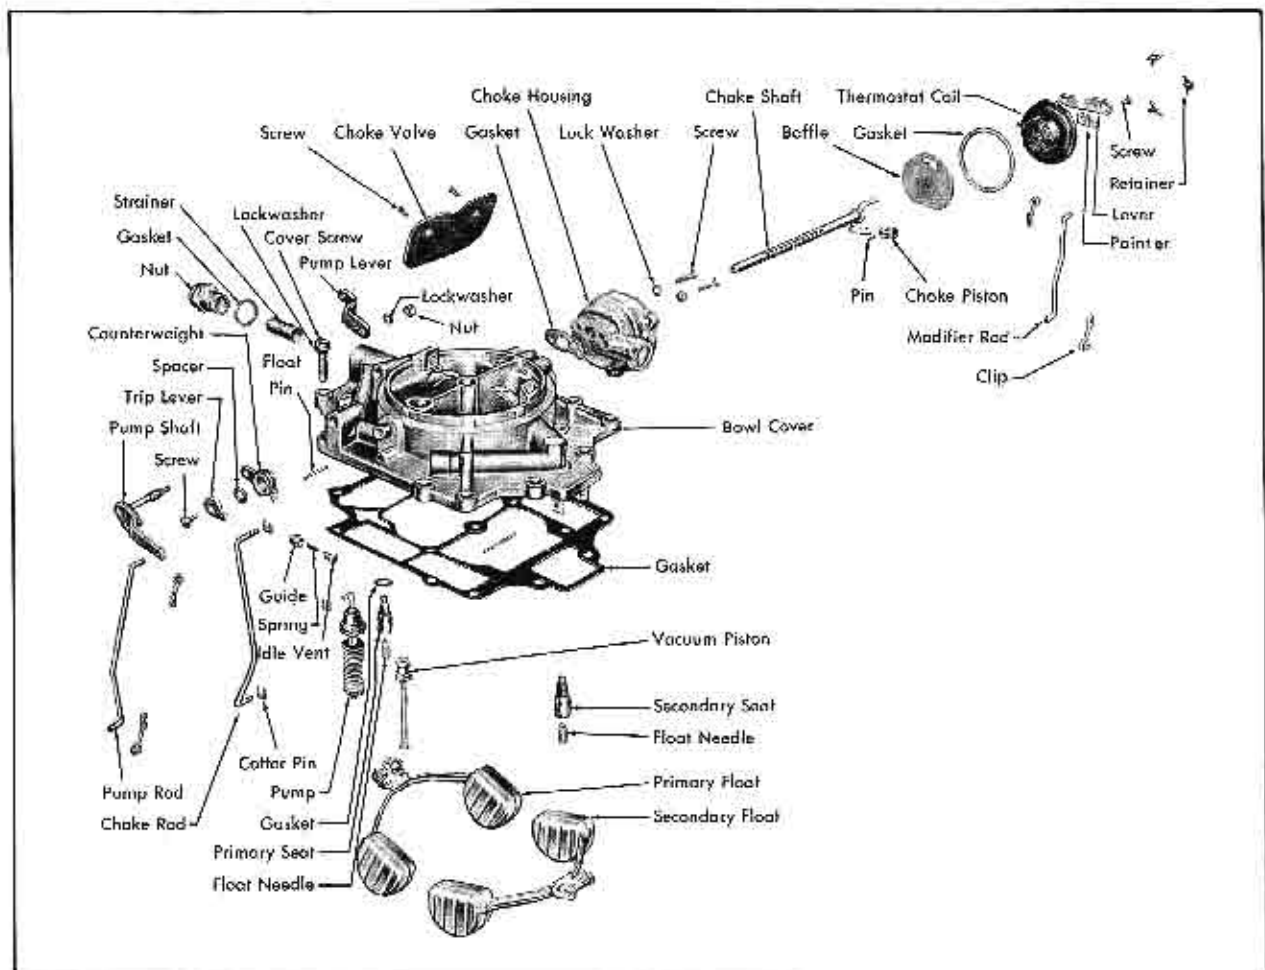

Fig. 12-50 Bowl Cover Assembly Disassembled
new choke housing gasket on bowl cover boss. Refer to Fig. 12-50.
1. Place fuel strainer in inlet nut with gasket, and screw into place on primary side of bowl cover. Refer to Fig. 12-50.